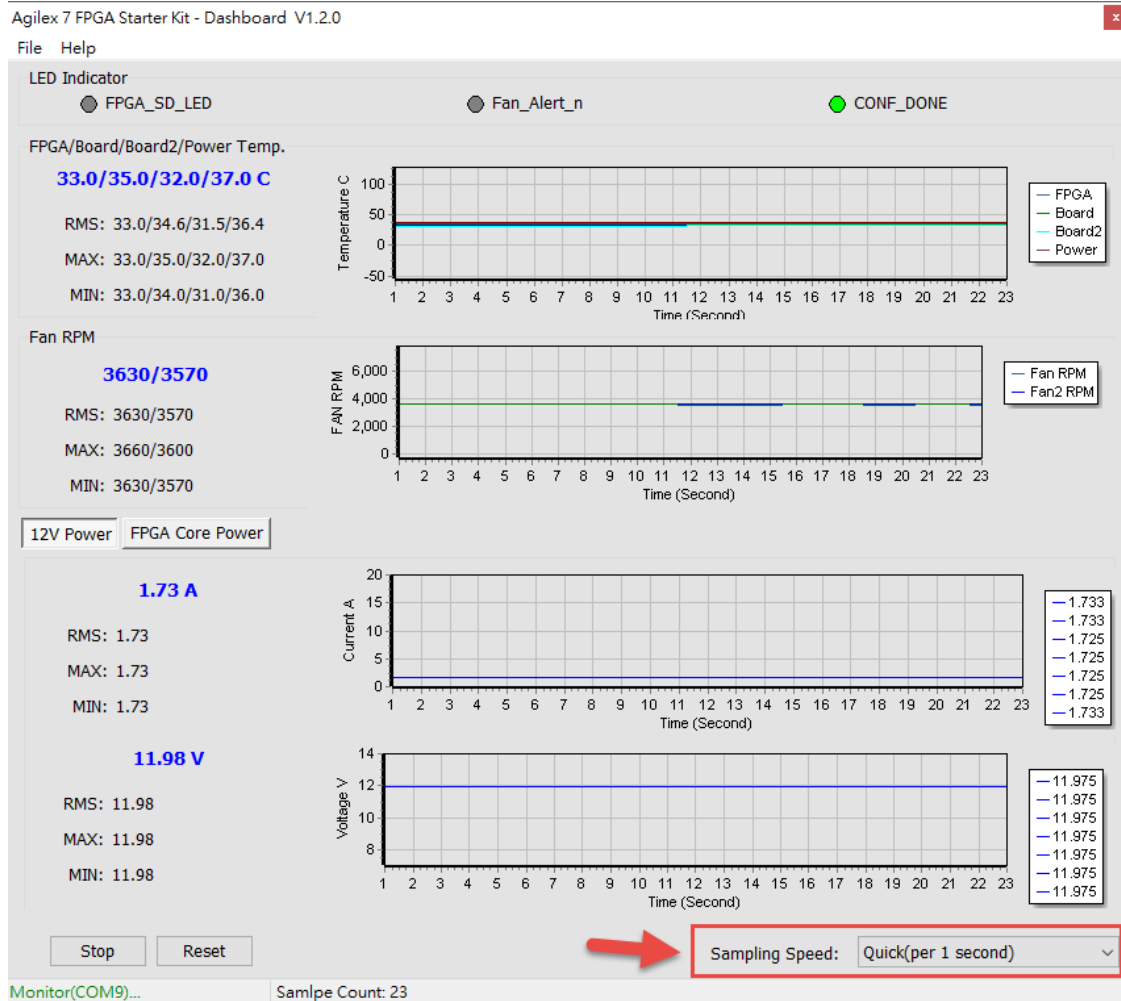
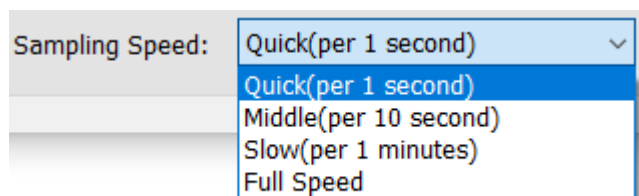

Figure 3-14 Sampling Speed section
Figure 3-15 Options of Sampling Speed
- **Sampling Speed:** It can change interval time that the Dashboard GUI sample the board status. Users can adjust it to 1s/10s/1min/Full Speed (0.1s) to sample the board status, as shown in Figure 3-14 and Figure 3-15.